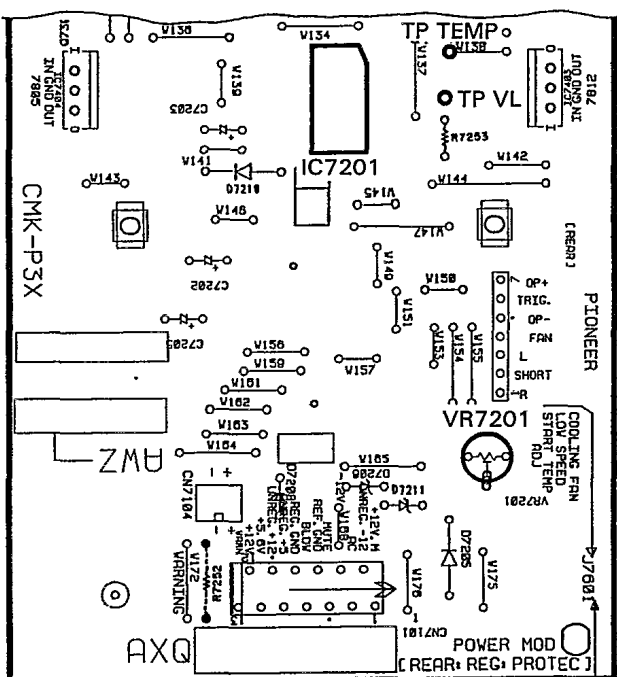
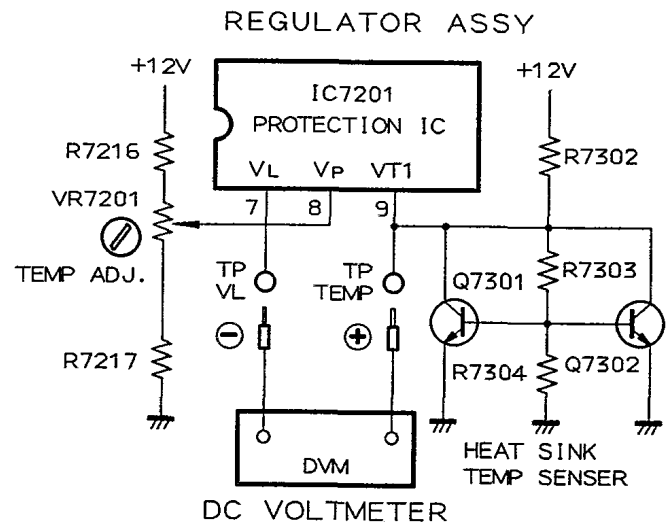

Fig. 2-5 REGULATOR ASSY
Fig. 2-4 Adjustment of Operating Temperature Setting of Fan Motor
1. Connect a voltmeter between TEMP and VL (or between IC7201 terminals No.7 and 9). (Refer to Fig. 2-4, Fig. 2-5)